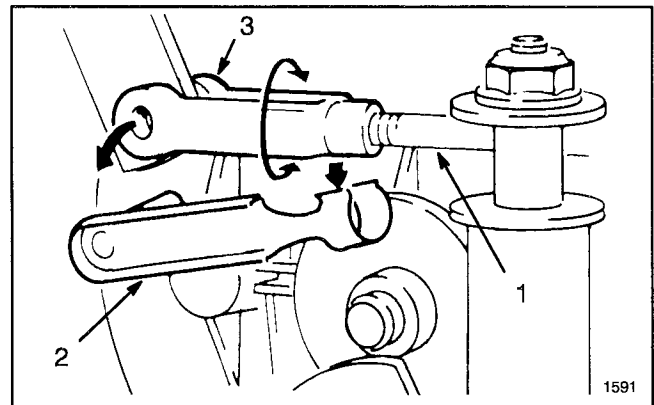

Figure 19
14. Locate deck engagement rod end on left side of transmission (Fig. 19). Remove clevis pin retainer and rotate clevis to lengthen or shorten rod until desired clearance between belt and pulley is attained.